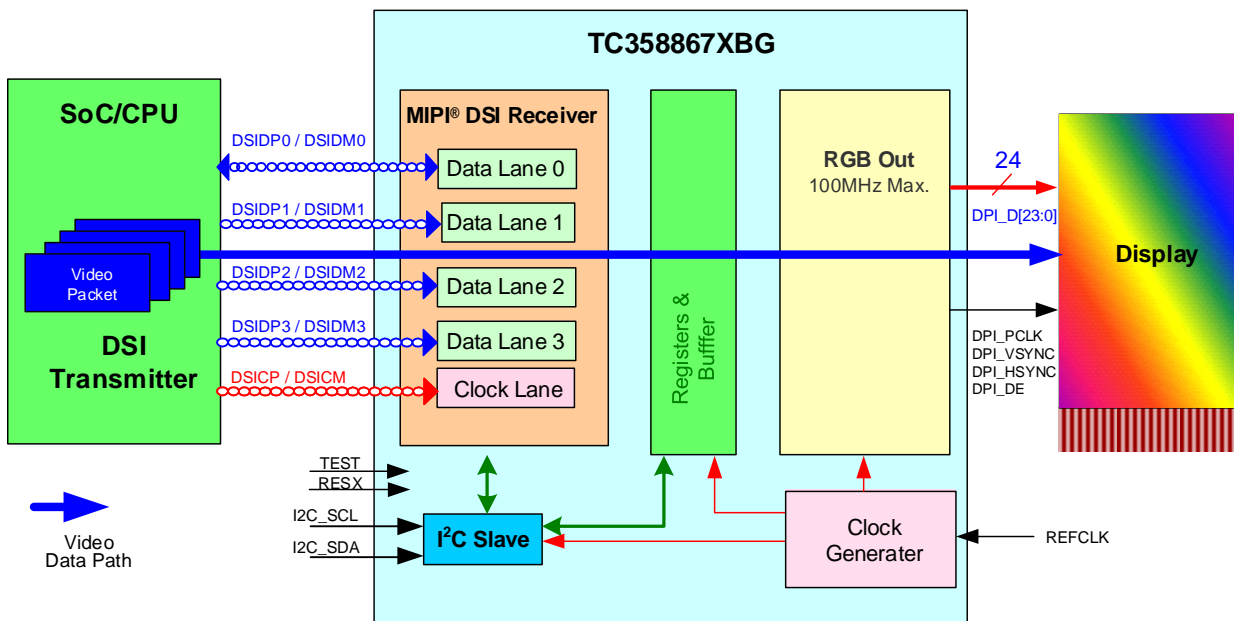

Figure 1.3 System Overview with TC358867XBG in MODE_S2P Configuration
- Mode_S2P: A system configuration where TC358867XBG may typically be used is shown in Figure 1.3. In this mode, DisplayPort™ output is not used and the chip rather behaves as a DSI to RGB convertor. In this system, TC358867XBG could be connected to a single display. In this configuration, the TC358867XBG can support displays with resolution up to WXGA (1280x800 or 1366x768). Maximum output PCLK is 100MHz. Video stream source is from DSI Host.